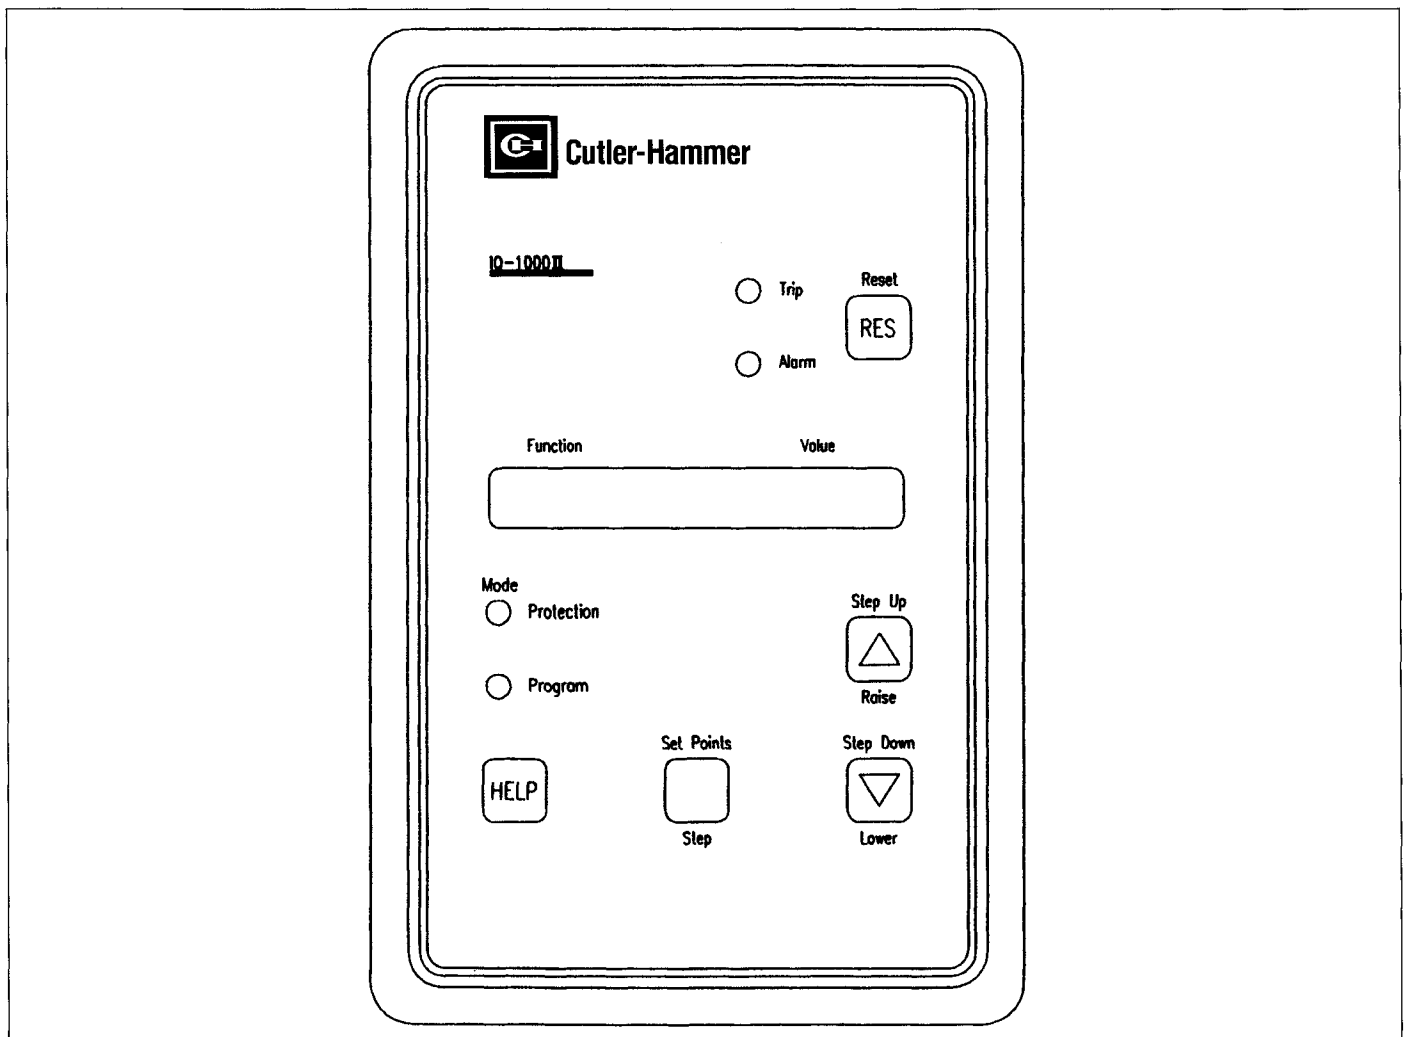

Fig. 2.1 Operator Panel
- Monitor the actual metered values on the Display Window. (Figure 2.1 shows the Operator Panel.)